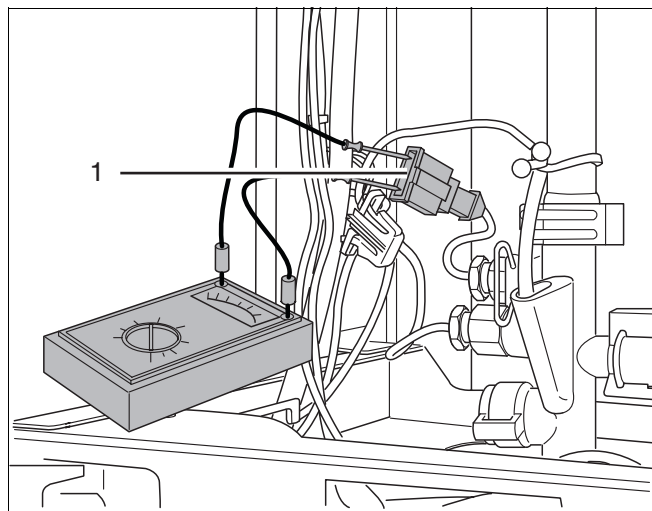

Fig. 67 600 Series 11S / 19S / 24S / 24C:
- Measure resistance of sensor (fig. 67, item 1).